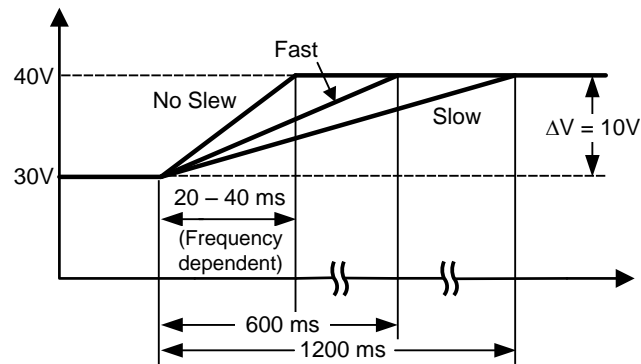

Figure 6. Slew Rate Limitation Circuit
**Output Voltage Slew Rate Limit Settling Time:** Time constant of the internal filter used to limit output voltage change. For fast slew rate, every 1V increase, the output voltage will be held for 30 ms whereas in a slow slew rate, the output voltage will be held for 62 ms for every 1V increase. (See Figure 6).